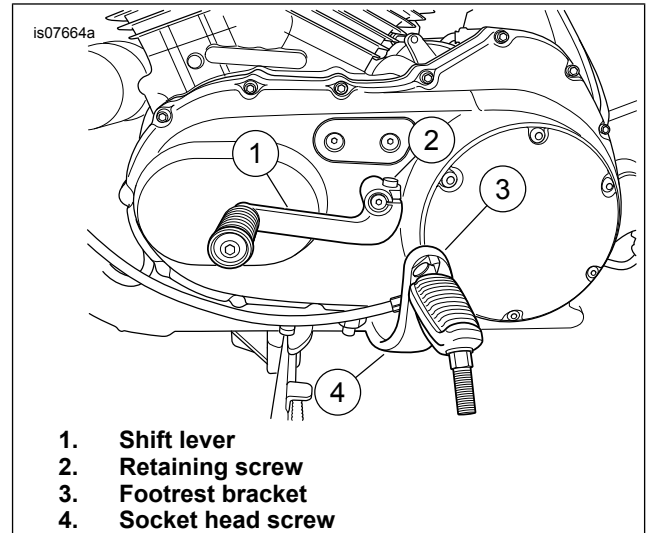
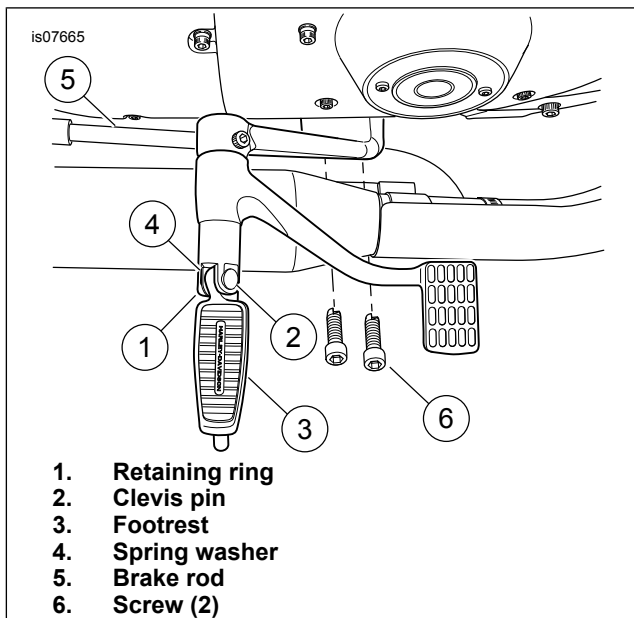
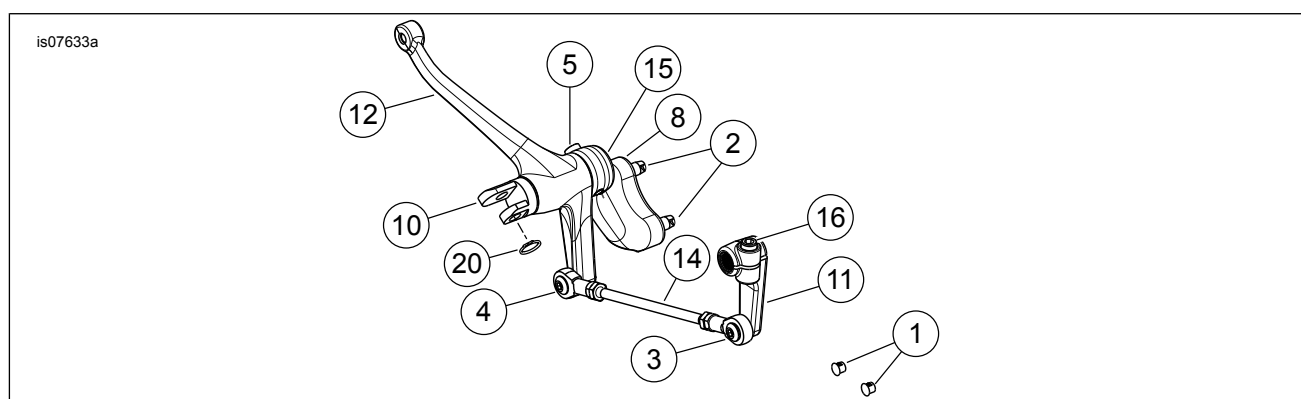
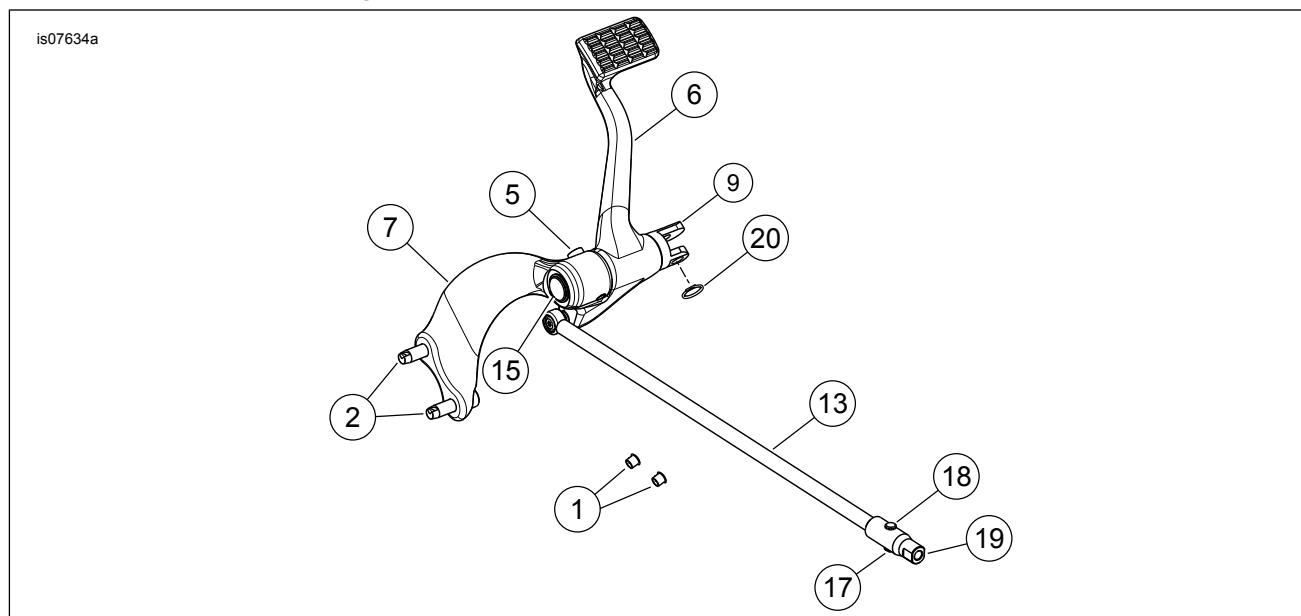

Figure 1. Remove Shift Lever and Footrest
Figure 3. Remove Footrest Support and Brake Pedal
Figure 5. Service Parts: Forward Control Left (Shift) Side
Figure 6. Service Parts: Forward Control Right (Brake) Side
See Figure 5, Figure 6 and Table 1.
1. See Figure 1. Loosen the shift lever retaining screw (2) securing the shift lever (1) to the shifter shaft. Slide the shift lever off the splined shaft. Remove shifter peg from lever and save for installation. Discard shift lever.
2. Remove the two socket head screws (4) securing the footrest bracket (3) to the frame and remove footrest. Discard screws.
3. See Figure 5. Obtain two hole plugs (1) from kit and firmly press plugs into frame screw holes remaining from footrest removal.
1. See Figure 3. At the right footrest, remove the retaining ring (1), clevis pin (2), footrest (3) and spring washer (4). Discard retaining ring (1) but save footrest, clevis pin and spring washer for installation.
2. Remove brake rod (5) from brake pedal and master cylinder push rod collar. Discard brake rod.
3. Remove the two screws (6) and right footrest/brake pedal support bracket with attached brake assembly from frame. Discard footrest support bracket and entire brake pedal assembly.
4. See Figure 6. Obtain hole plugs (1) and install in holes left from support bracket removal.
1. See Figure 6. At the lower front of the right frame downtube, remove the two screws securing the J-clip (B) to the frame. Discard the screws but save J-clip for installation.
2. Obtain the new footrest/brake pedal support bracket (7), new brake pedal assembly (6), footrest mount clevis (9), screw (5) and footrest mount clevis retaining ring (15) from kit.
3. Slide the brake pedal (6) onto footrest mount clevis (9) then slide clevis into footrest/brake pedal support bracket (7). Align hole in the clevis with hole in the support bracket and install screw (5). Tighten the screw to 17.6–23 N·m (13–17 ft-lbs).
4. Install the footrest mount clevis retaining ring (15) to the groove at the end of the footpeg clevis.
5. Obtain the two new footrest/brake pedal support screws (2) from kit.
6. Position the J-clip (from Step 1) against the frame aligning the mounting holes. Mount the footrest/brake pedal support bracket (7) and J-clip to frame using the new screws (2). Tighten the bracket to 61.1–67.9 N·m (45–50 ft-lbs).
7. Obtain the brake rod (13) from kit and insert one end into the master cylinder collar. Secure with brake pedal pushrod pin and E-style clip.
9. Thread the ball stud screw into the brake pedal assembly (6). Tighten to 13.6–20.4 N·m (120–180 in-lbs).
10. See Figure 6. Obtain the saved footpeg, spring washer, footpeg clevis pin and footpeg clevis retaining ring (20) from kit.
11. Install footpeg on clevis with spring washer. Make sure spring washer is positioned inside clevis (9) with the square edge toward the inside. Align holes and push clevis pin from top down through hole in clevis. Secure clevis pin using the new retaining ring (20).
1. See Figure 5. Obtain shift link arm (11) and screw (16) from kit. Orient shift link arm pointing straight down and slide onto shift shaft (exiting engine sidecover). Install screw (16) and tighten to 22–27 N·m (16–20 ft-lbs).
2. Mount footrest/shift pedal support bracket (7) to frame using screws (2). Tighten to 61.1–67.9 N·m (45–50 ft-lbs).
3. Slide shift pedal (12) onto clevis (10). Mount clevis on footrest/shift pedal support bracket (8). Align hole in clevis with hole in support bracket and secure using screw (5). Tighten screw to 17.6–23 N·m (13–17 ft-lbs).
4. Install retaining ring (15) to the relief at the end of the clevis (10) to further secure it in place.
5. Thread screw (3) in far end of the shift rod (14) and into shifter arm (11). Tighten to 13.6–20.3 N·m (10–15 ft-lbs).
6. Thread screw (4) in opposite end of shift rod (14) into shift pedal (12). Tighten to 13.6–20.3 N·m (10–15 ft-lbs).
8. See Figure 5. Obtain the saved footpeg, spring washer, footpeg clevis pin and footpeg clevis retaining ring (20) from kit.
9. Install footpeg on clevis (10) with spring washer. Make sure spring washer is positioned inside clevis with the square edge toward the inside. Align holes and push clevis pin from top down through hole in clevis. Secure clevis pin using the new retaining ring (20).